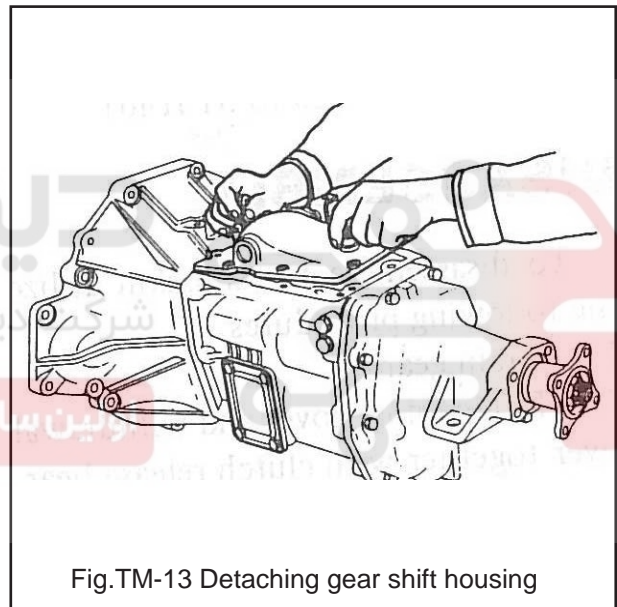

Fig.TM-13 Detaching gear shift housing
5. Remove gear shift housing securing bolts and detach gear shift housing from transmission case. See Figure TM-13.